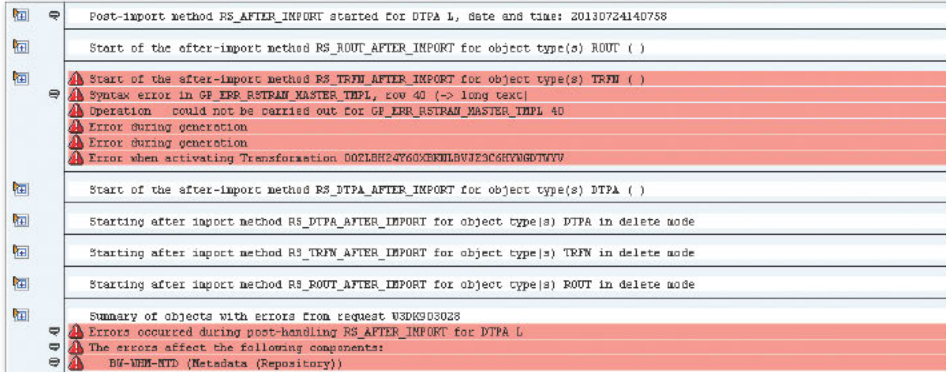

Figure 1 Transport Log Display
3. If you want to expand the log to see which object caused the transport, click on the DETAILS icon. For example, the log details are shown in Figure 1.